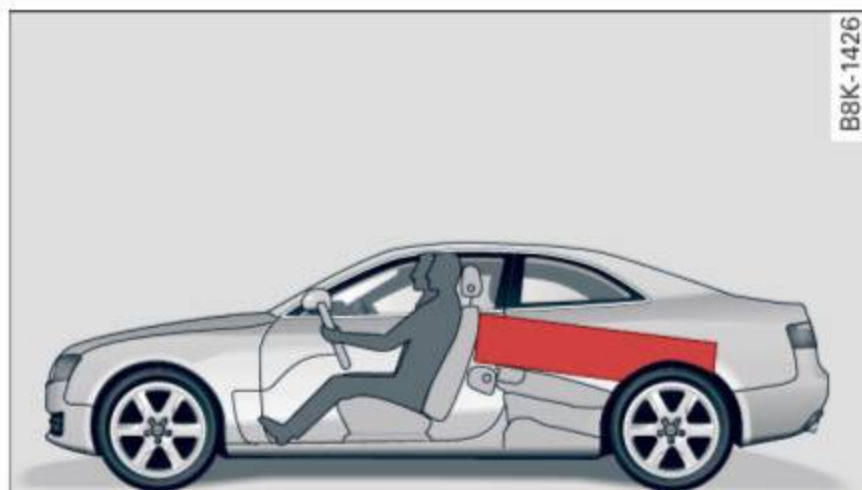

Fig. 120 Safe load positioning: place heavy objects as low and as far forward as possible.
- ▶ Always place and properly secure heavy items in the luggage compartment as low and as far forward as possible ⇒ *fig. 120*.